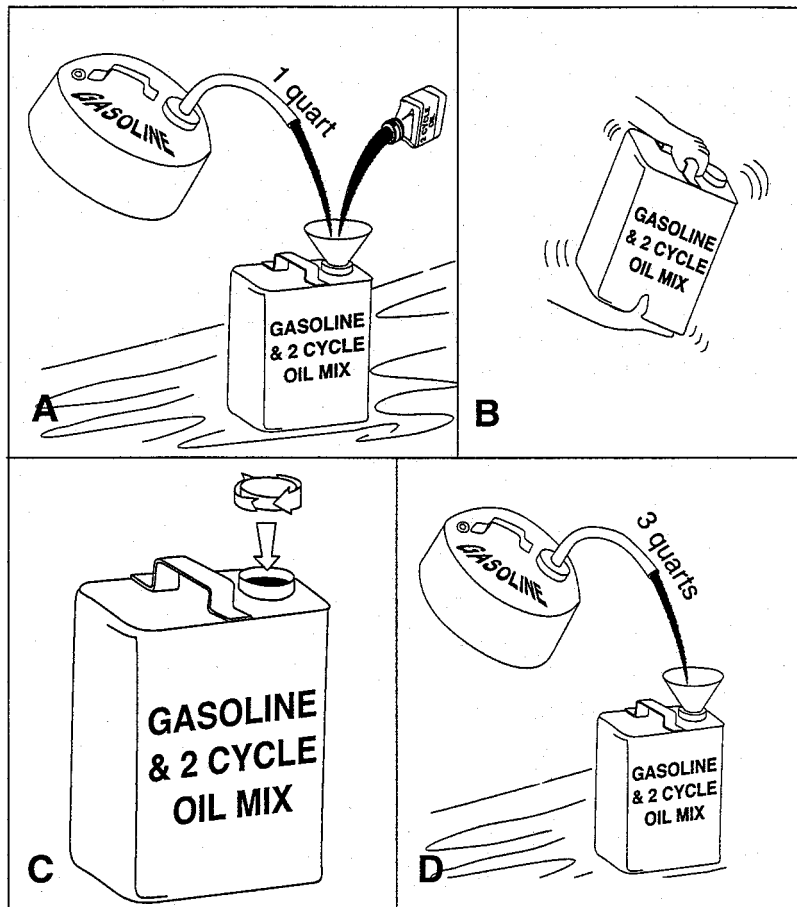

FIGURE 2
1. Fill an approved clean one-gallon container with one quart fresh unleaded gasoline. See figure 2.
4. Unscrew the cap and fill the container with three quarts of gasoline. Shake the container again. See figure 2.